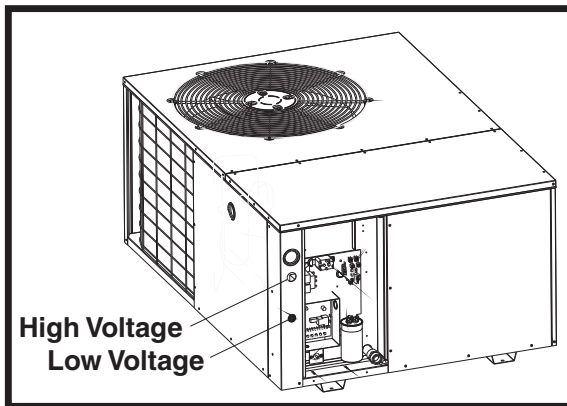

Figure 8. Power Entry
1. Route 24V control wires through the sealing grommet (Figure 8) near the power entrance.